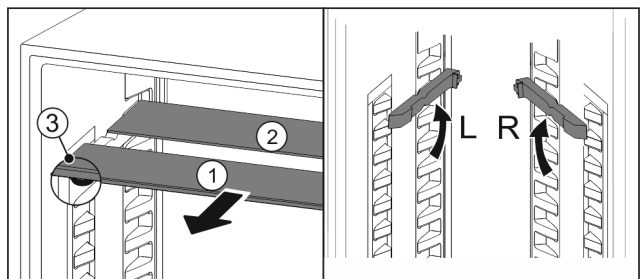

Fig. 113
- ▶ Pull the glass panels out Fig. 113 (1) from the front, one at a time.
- ▶ The glass panel Fig. 113 (1) and trim strip are at the front.
- ▶ The stops Fig. 113 (3) point down.